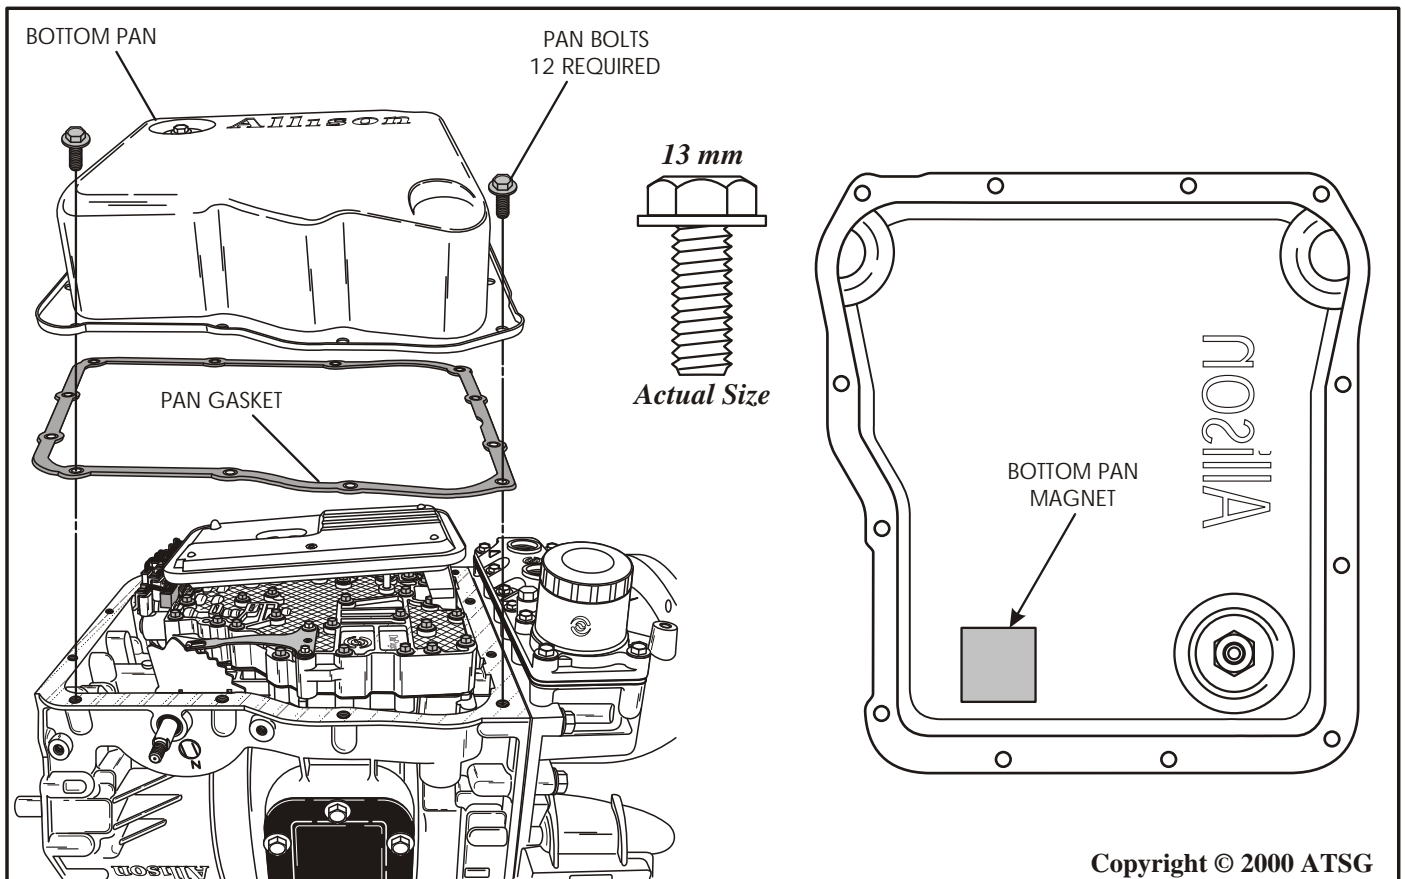

Figure 175
61. Install a new bottom pan gasket onto the case, as shown in Figure 175.
62. Install the bottom pan magnet into the bottom pan in the location shown in Figure 175.
63. Install the bottom pan and twelve bottom pan retaining bolts, as shown in Figure 175.
64. Torque all of the bottom pan retaining bolts to 27 N.m, (20 ft.lb.) (See Figure 175).